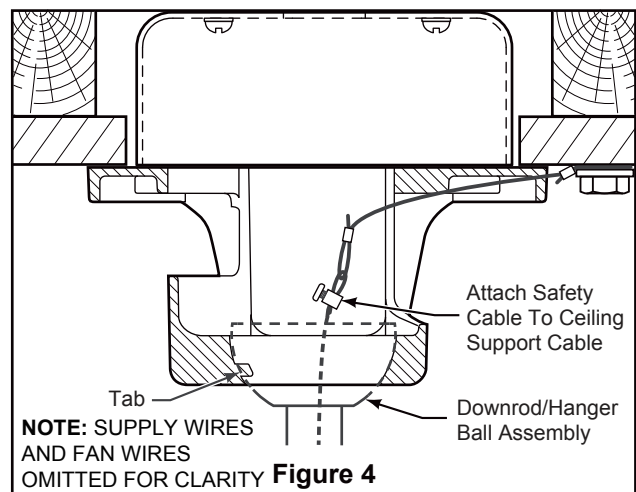

Figure 4
4. Carefully lift the fan and seat the downrod/hanger ball assembly onto the hanger bracket that was just attached to the outlet box. Be sure the groove in the ball is lined up with tab on the hanger bracket. (Figure 4)
5. Attach the safety cable to ceiling support cable. Slide cable clamp and washer onto safety cable (from fan). Place the end of cable through the loop of ceiling support cable. Pull as much cable through loop as possible. Feed end of cable into clamp hole and firmly tighten screw. (Figure 4)
3. Connect green wires from hanger bracket, hanger ball and ground from supply using wire connector. Connect black wire from receiver unit marked "AC IN L" to black supply wire using wire connector. Connect white wire from receiver unit marked "AC IN N" to white supply wire using wire connector. Connect white wire from receiver unit marked "TO MOTOR N" to white wire from fan using wire connector supplied with receiver unit. Connect black wire from receiver unit marked "TO MOTOR L" to black wire from fan using wire connector supplied with receiver unit. Lastly, connect blue wire from receiver unit to the blue fan light wire using wire connector supplied with receiver unit. (Figure 4)
Connect the 2 single-pin connectors from the LED assembly to the 2 single-pin connectors from motor assembly. (Figure 4)
- 4.** To set the remote code same positions as the receiver with a small screwdriver or ball point pen (neither included), slide dip switches firmly up or down. (Figure 4)